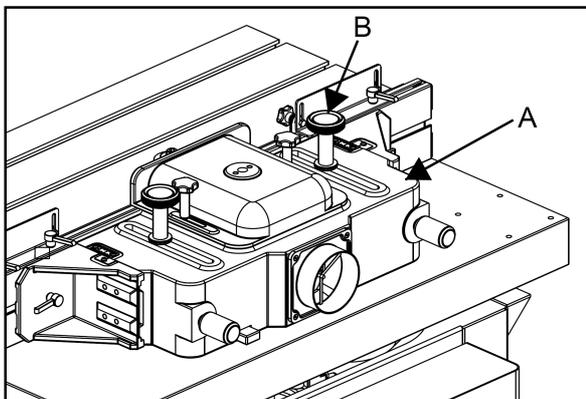

Fig.14
2) Install the fence by placing the main fence (A) on the table surface. (See Fig.14)
3) Lock the fence to the table by threading the two locking handles (B) into the holes in the table located behind the spindle. (See Fig.14)